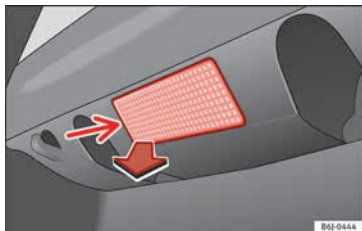

Fig. 118 Boot light.
- Extract the bulb by pressing on its inside edge -arrow- using the flat side of a screwdriver»» **Fig. 118.**